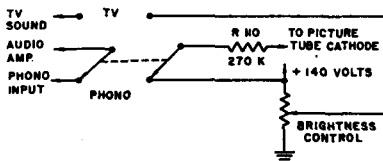

Fig. 12 — Stromberg-Carlson
**Extinguishing picture tube during phono operation (see Fig. 12).**